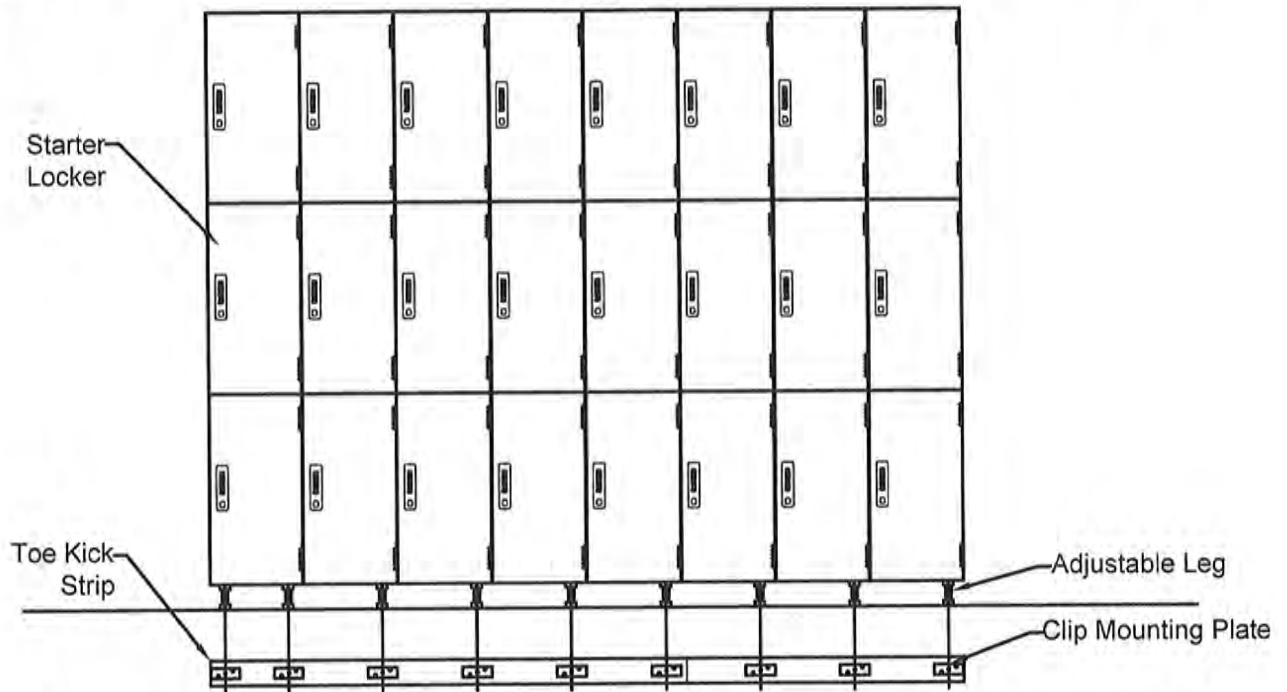

Figure 8.1 Locker Toe Kick Strip Adjustable Legs Center Locations
- 8.4 Mark the center locations of the legs on the back side of the toe kick strips. Once you have the first leg location the distance to the next leg will be the width of your lockers. The distance for end lockers with four legs will differ, see Figure 8.1.